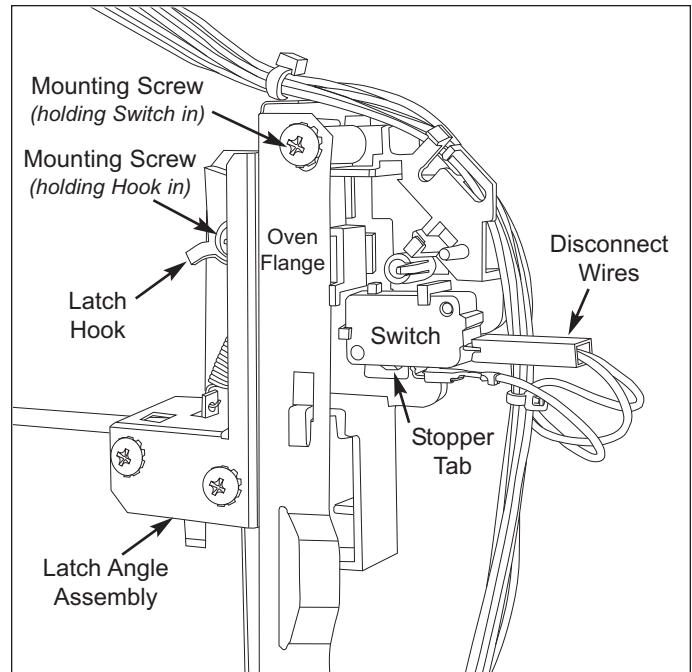

Figure 4-8. Switch Assembly Removal (Door Sensing Switch Shown)
4. Extract the mounting screw/washer holding the latch hook to the latch angle assembly (See Figure 4-8).
7. Remove each switch from the latch hook by pushing the one stopper tab (located at the bottom) holding each switch (See Figure 4-8).